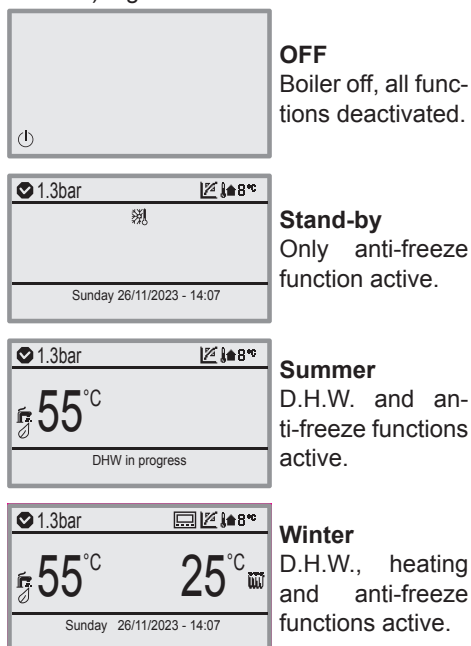

Fig. 2.4
- Turn on the electricity supply to the boiler, switching on the fused spur isolation switch. The LCD display displays the state within which the boiler is found (last memorised) Fig. 2.4.
To select the various operating modes, simply press key 14 (Fig. 2.5) repeatedly and select the desired mode (see Fig. 2.4).